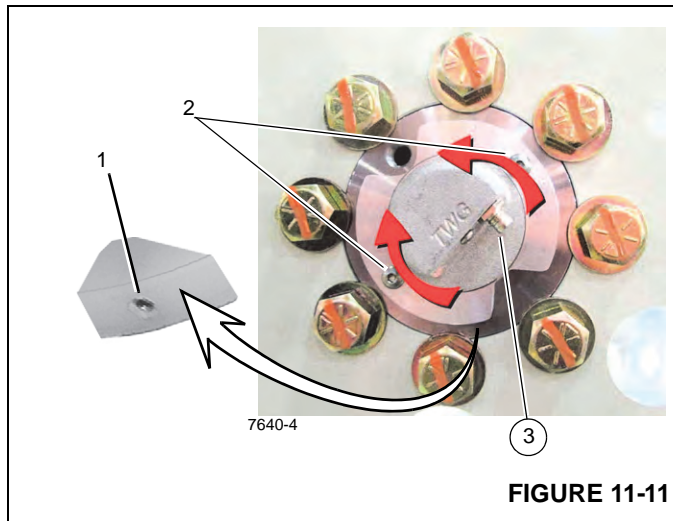

FIGURE 11-11
4. Loosen the set screw (1, Figure 11-11) on the side of the DRI flange.
5. Using the spanner wrench holes (2, Figure 11-11) rotate the DRI so that the connector (3) is pointed down.
6. Tighten the set screw (1, Figure 11-11) after the DRI is positioned as desired.